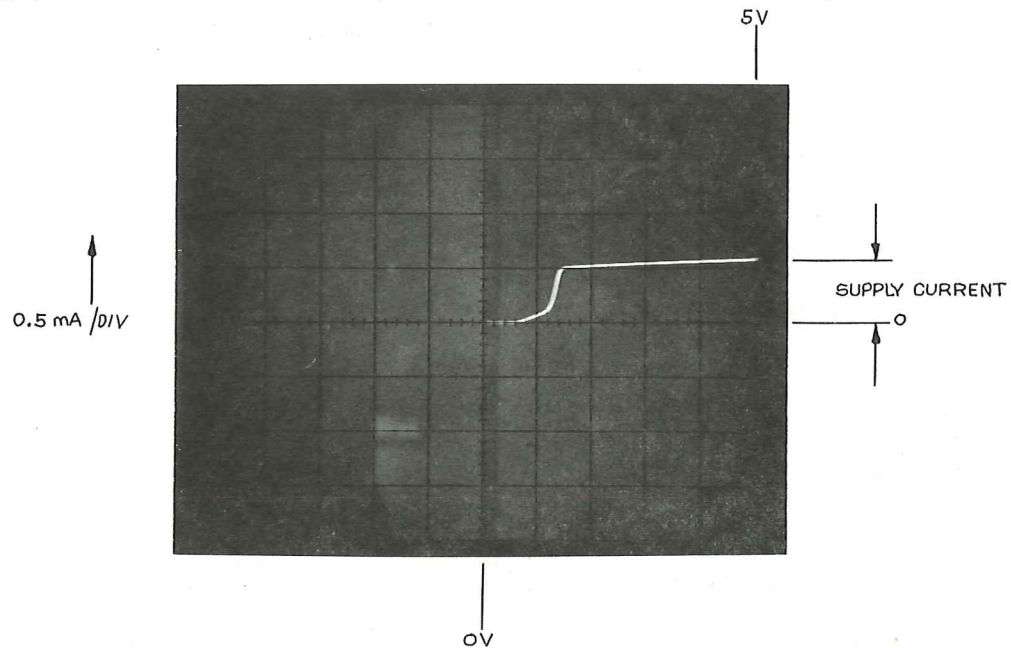

Figure 13. Typical display of supply-current (maximum).
- CHECK-supply current at 5 volts for  $\leq$  four vertical divisions; see Fig. 13.